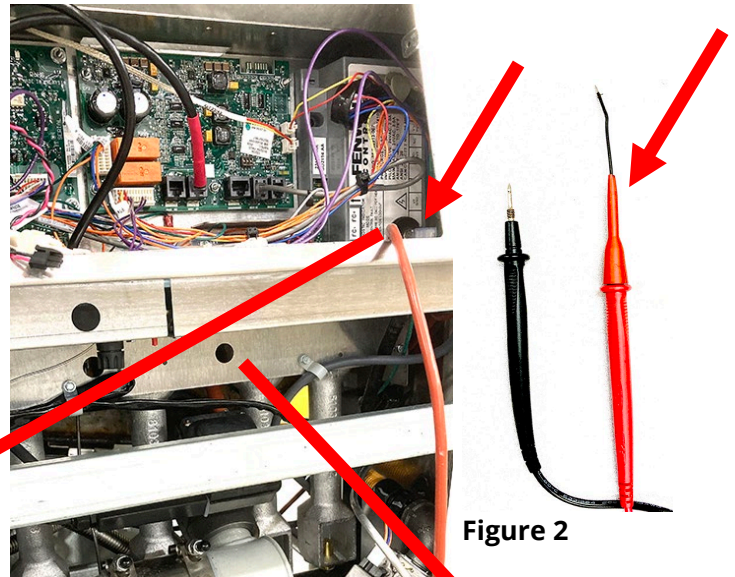

Figure 1
1. Disconnect and remove the touch screen controller to access the spark module (see Figure 1).